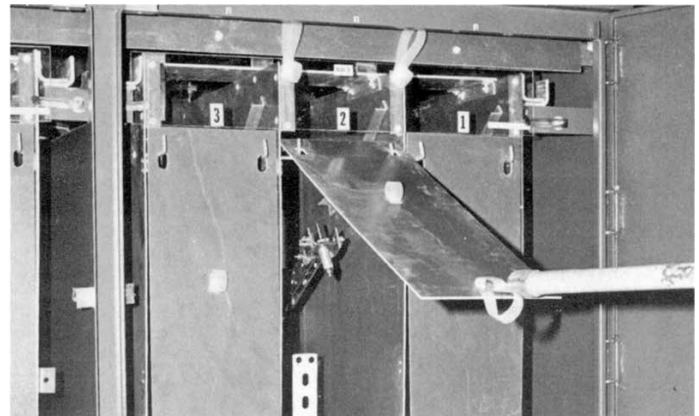

Figure 15. DP Barrier lifted to slide into place.
**NOTE:** The standard barrier system provides dual purpose barriers for insertion into the open gap when switch is in the open position (Figure 14). Should an attempt be made to close the switch with the DP barriers in the inserted position, the DP barriers will prevent the switch blades from closing (Figure 15). Should this occur, turn the switch handle briskly in the direction required to open the switch. The switch mechanism will latch and after the DP barriers are removed and returned to the hanging position, the switch may be closed in the normal manner.